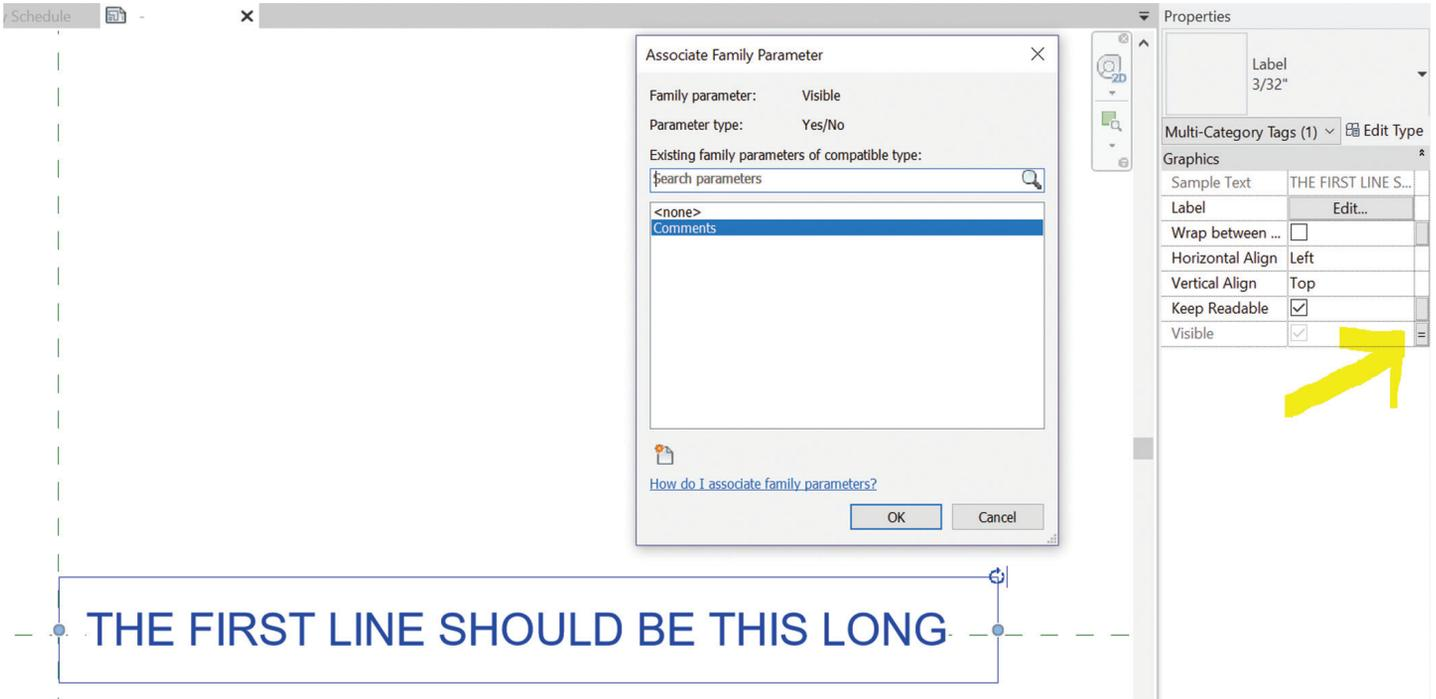

Figure 2
- as in Figure 2.
- ii. Set it up to have a Visibility (Yes/No) Parameter similar to Figure 2, but this time make another new Visibility Parameter called “Type Comments” and set this new Label to that.